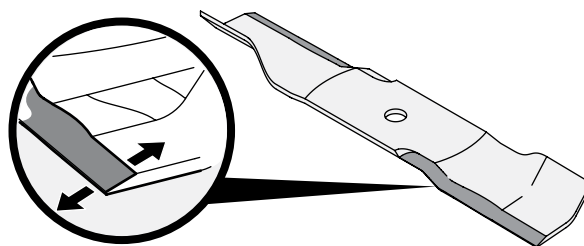

Figure 37
- To properly sharpen the cutting blades, remove equal amounts of metal from both ends of the blades along the cutting edges, parallel to the trailing edge, at a 25°-30° angle. Always grind each cutting blade edge equally to maintain proper blade balance. See Figure 37.